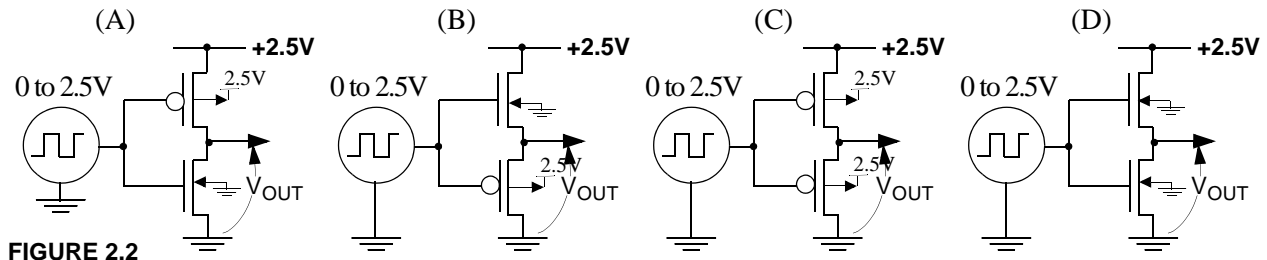

FIGURE 2.2
- Classify the inverter circuits of **Figure 2.2** as “won’t work,” “will work with poor output swing,” and “will work well”. Explain which one does not have the inverting structure.
- Using simulations, sketch the output waveform from circuits (A) and (B). Use the knowledge you gained from last week to explain.